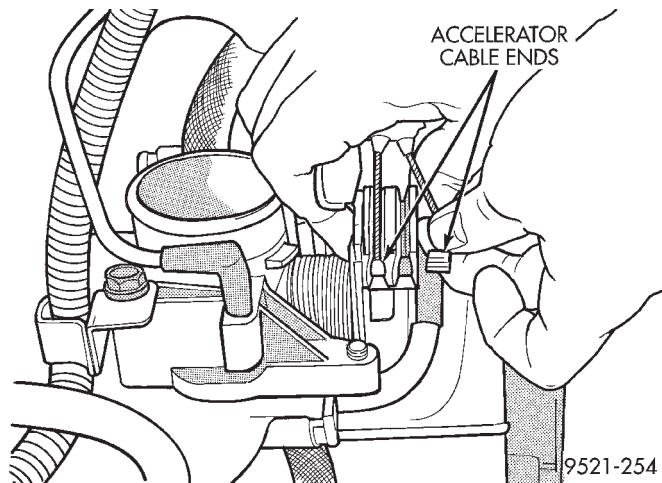

Fig. 22 Accelerator Cable Ends
(7) Disconnect accelerator cables ends from throttle body (Fig. 22).